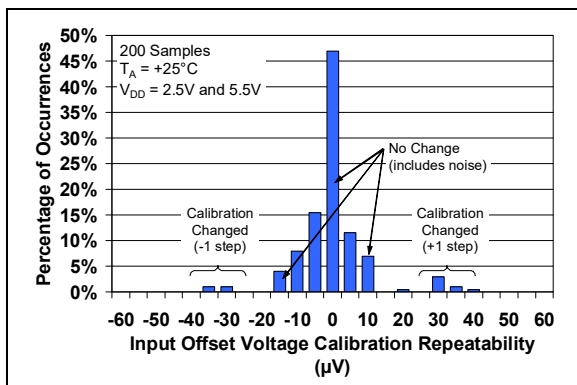

FIGURE 2-3: Input Offset Voltage Calibration Repeatability (repeated calibration).
- Note 2:** Increment between adjacent V_{OS} trim points; Figure 2-3 shows how this affects the V_{OS} repeatability.